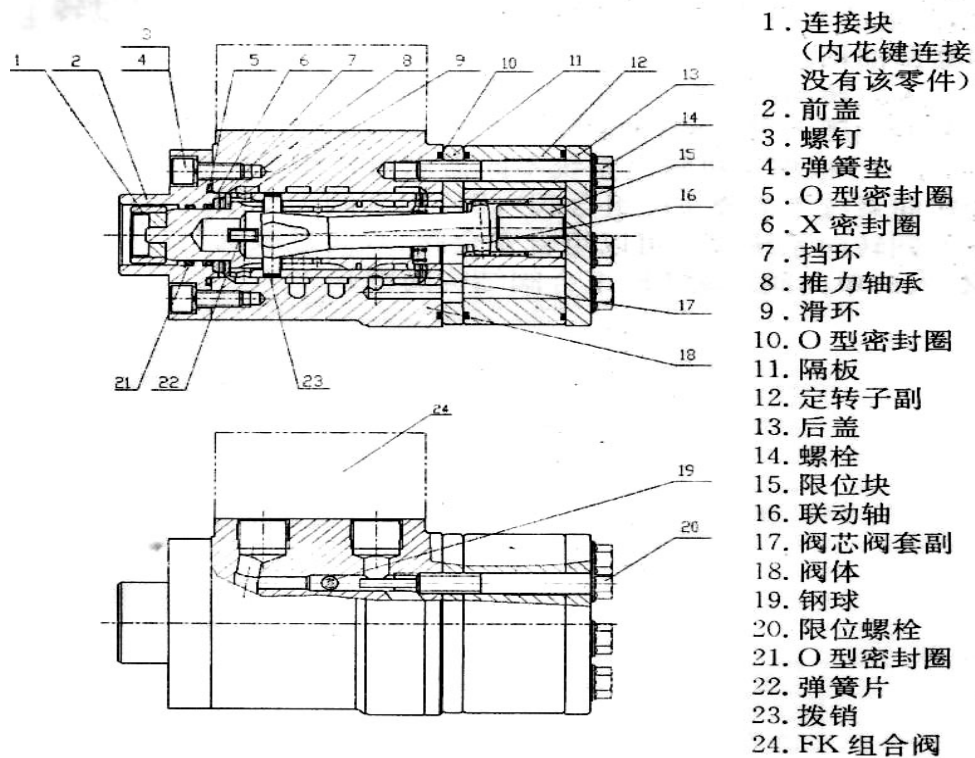

Figure 1
1. Hydrocushion: as shown in Figure 1, the inlet and outlet pressure chambers of the pump are opposite in radial direction. As a result, the rotor is hydrostatic to free the bearing from hydraulic load, guaranteeing a long service life.
Figure 2 illustrates an inserter in vane groove. Outlet pressure is continuously applied to the space between vanes and the inserter only. Vane top and bottom areas bear inlet or outlet pressure, depending on vane positions during the rotation of rotor. See Figure 1, full hydrocushion is realized in inlet pressure zone. The outward thrust given the vanes in the inlet area equals to the product of outlet pressure and projected area at the tip of inserter.